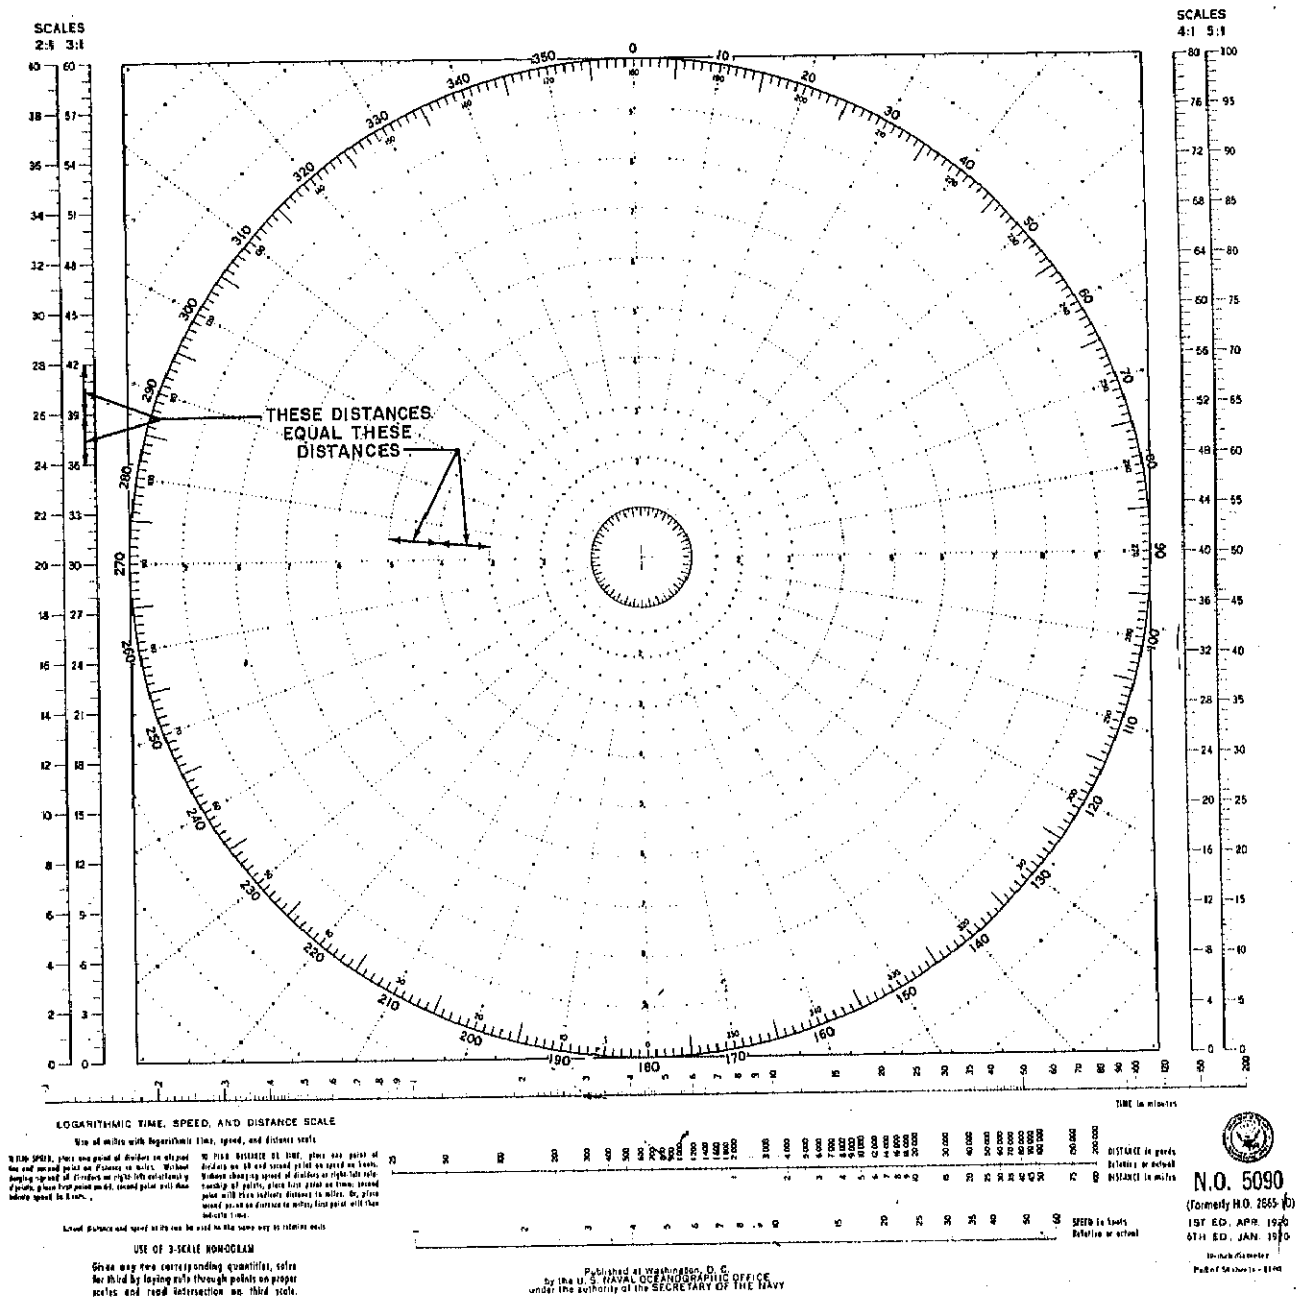

Figure 9-18.—Maneuvering board.
The maneuvering board (MB), figure 9-18, has been designed specifically for solving problems involving relative movement between ships underway. The maneuvering board is a drawing to scale showing the position of one moving object relative to other moving objects. The center of the maneuvering board is the reference ship from which the positions of other ships are plotted. It is labeled with the capital letter R.
The maneuvering board has two sets of bearings printed along its outer circle. The outer numbers represent true bearings, and the inner set of numbers is printed as an aid in finding reciprocal bearings quickly. Notice in figure 9-18 that there are 10 circles. These circles represent units of distance and may be used to form a scale.
Ratio scales are provided on the left and right sides of the maneuvering board (figure 9-18) for convenience in adopting a suitable reduction for quantities pertaining to the problem at hand.